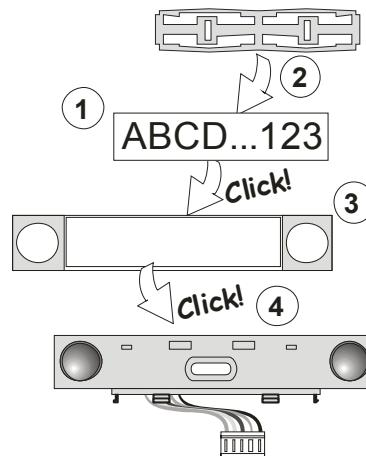

Figure 3: Insertion of a label into a control segment
7. Connect the segment wires to the internal connector of the module (8).
- b. When batteries are inserted, the yellow backlit activation button (3) starts to light permanently which indicates that the module has not been enrolled to the system yet.
- d. Press the backlit activation button (3) – the module is thus enrolled and the yellow LED indicator goes off (this can take a few sec). An enrollment signal can also be sent by inserting the batteries.
10. When you have completed installation, insert descriptive labels behind the segment transparent plastic cover and close them, see figure 3. Label printing is a part of the F-Link software (**Devices** window, at the RFID module position – **Internal settings**).